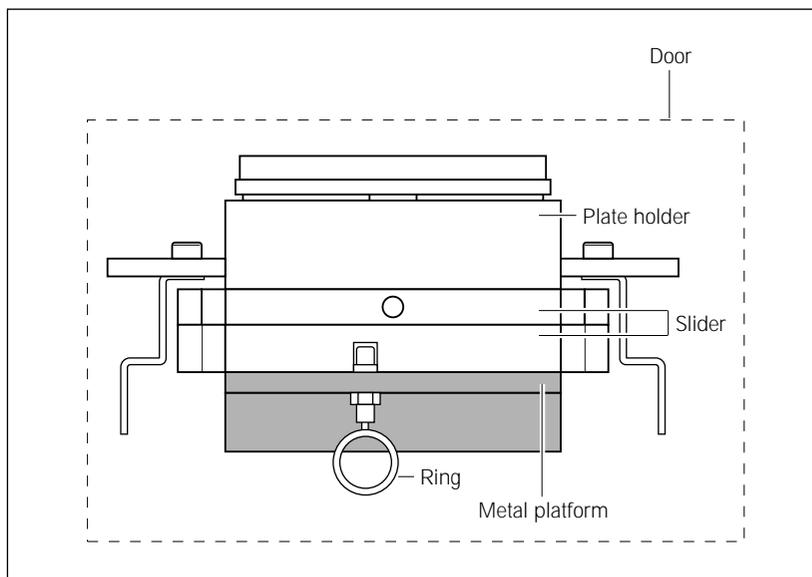

Figure 3-1. The cathode slider, front view.
2. Using a screwdriver, reach under the slider and pull down on the ring hanging below the stage (figure 3-1). The ring is approximately 10 cm (4 inches) from the drawer.